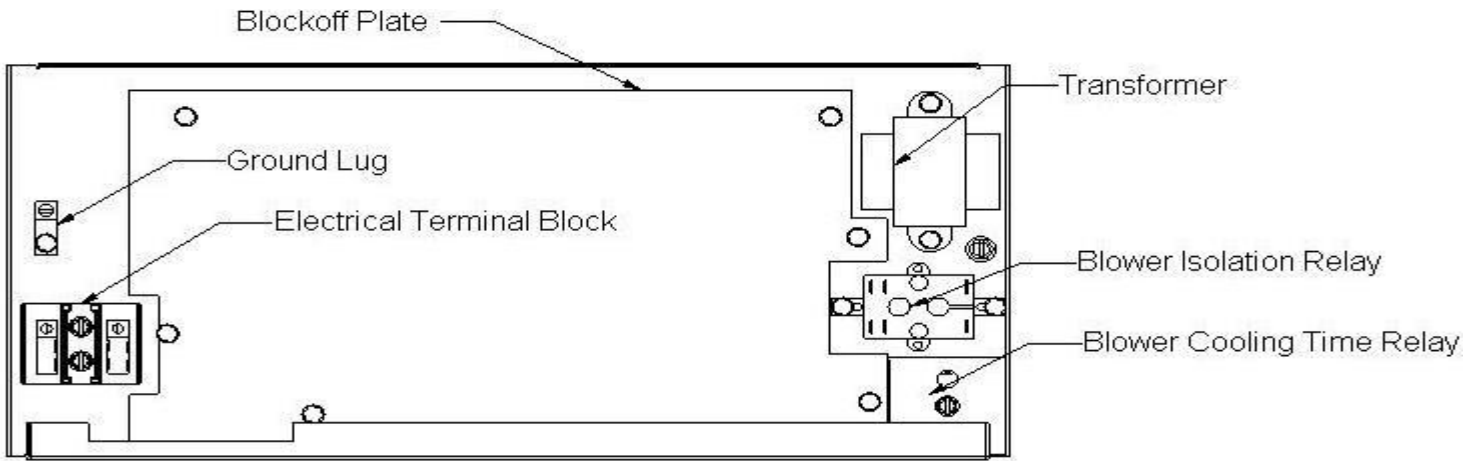

Figure 18: Component Locations – No Heat Control Box
- Remove the block off plate shown in Figures 18 and 19, then discard. Retain the screws; they will be used to secure the electric heater mount plate.
For circuit breaker models only - After the supply wiring has been connected to the circuit breakers you must remove the transformer and indoor blower motor wires from the terminal block as shown in Figures 18 and 19 and connect them to load side of circuit breaker #1 except on the 15 kW and 20 kW models where the wires get connected to circuit breaker #2.